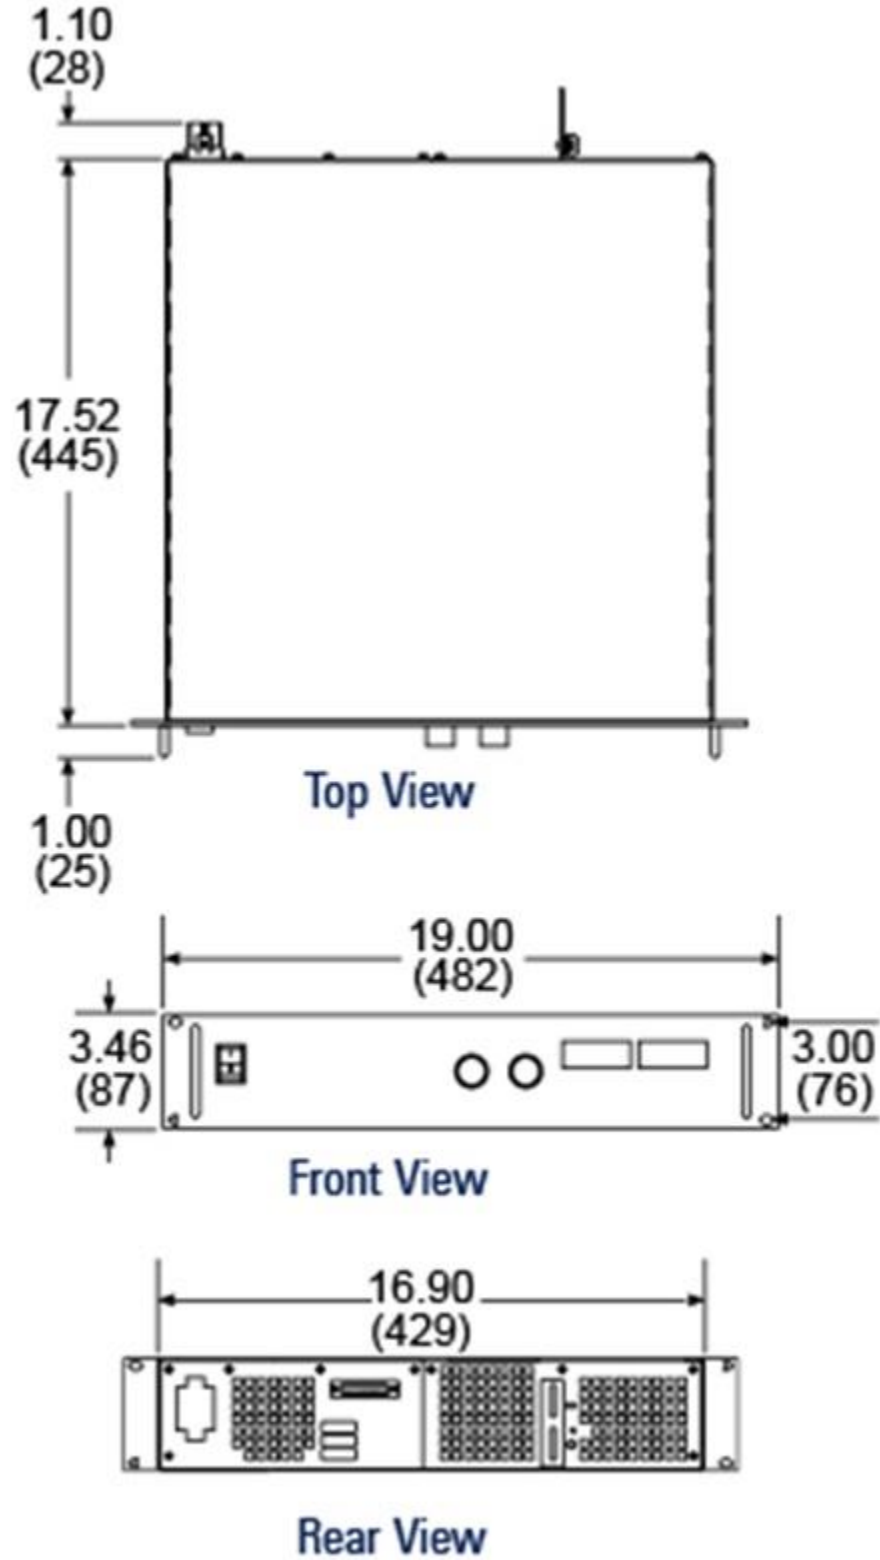

Figure 2-1 Dimensions of DC Power Supply
The detailed dimensions of the Patara laser are shown in Figure 2-1 and 2-2. The laser head has dimensions of 34.2 inch (L) x 10 inch (W) x 6.73 inch (H).